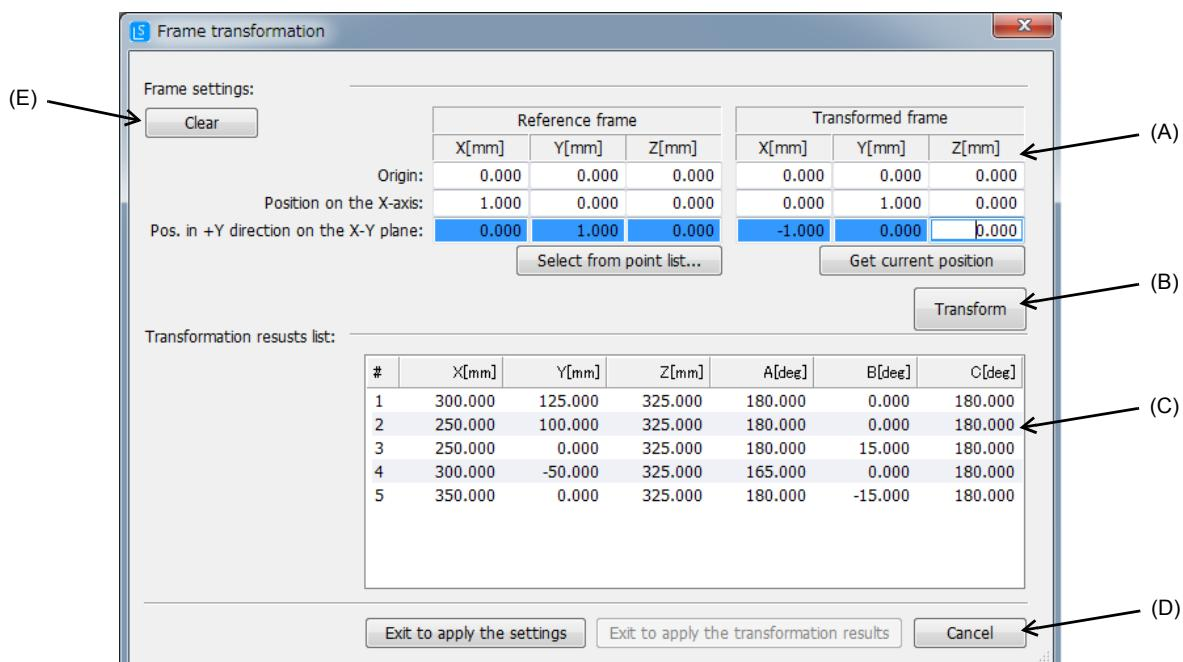

Fig.7-106:Frame transformation screen
In the (A) section of Fig. 7-106, set the X, Y and Z axis coordinate values for the three positions (origin, position on X axis, position in +Y direction on X-Y plane) that define the reference coordinate system and transformed reference coordinate system.
When the [Transform] button in Fig. 7-106 (B) is clicked after setting the coordinate system, frame transformation is applied on all path point data. The results are shown in Fig. 7-106 (C) "Transformation results list". When frame transformation is executed, the [Exit to apply the transformation results] button in Fig. 7-106 (D) is enabled.
When the Fig. 7-106 (D) [Exit to apply the settings] button is clicked after setting the coordinate system, the position data that defines the coordinate system will be saved in the Spline File Edit screen, and the Frame transformation screen will close.
Click the [Fig. 7-106 \(E\) \[Clear\]](#) button to clear the coordinate system settings saved in the Spline File Edit screen. A confirmation dialog will appear when this button is clicked.